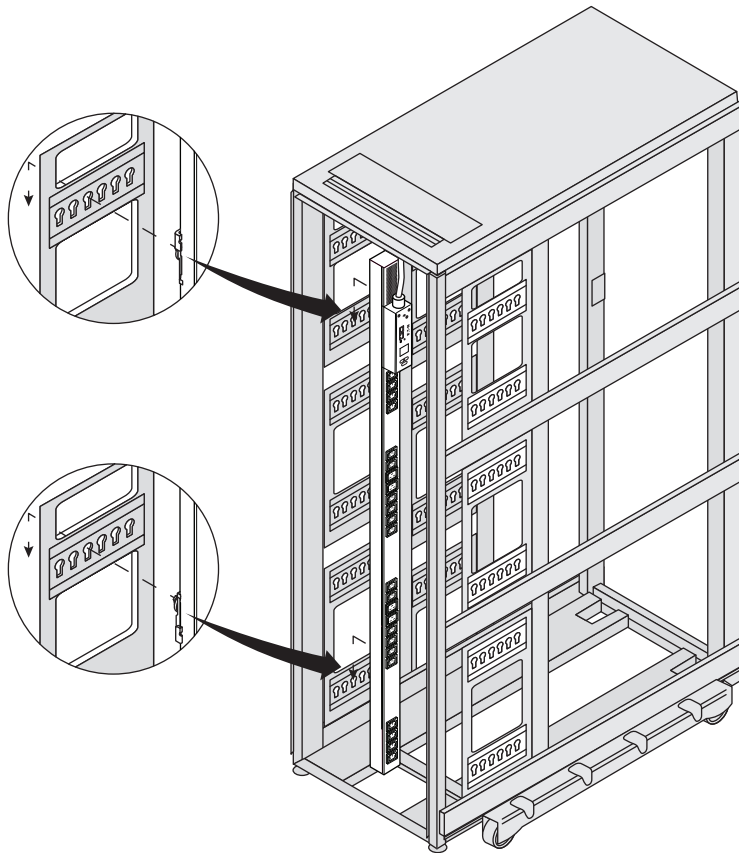

Figure 13. Securing the ePDU
4. Insert the top and bottom mounting buttons into the appropriate keyhole slots, as shown in Figure 13.